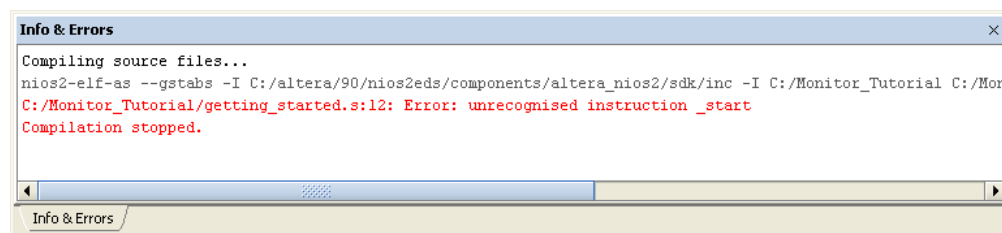

Figure 15. An example of a compiler error message.
that appears at the end of the `_start` label, in line 12. Recompile the project to see the error shown in Figure 15. The error message gives the line number in the file (12) where the error was detected. Fix the error, and then compile and load the program again.